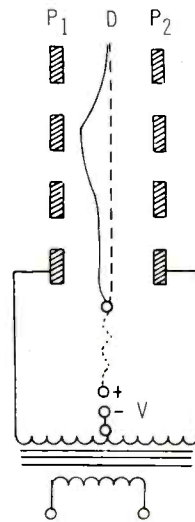

Fig. 4—Showing diaphragm displacement.
C2 figure because the net increase is greater than the decrease. This means that the corresponding charge will be higher and the diaphragm displacement will be greater than required. In other words, it would produce a kind of amplitude distortion progressively worse at low frequencies. Fortunately, the cure is fairly simple and it merely entails supplying the charge in the diaphragm via a high resistance. If the time-constant introduced is appreciable compared with the lowest frequency to be reproduced then there can be no significant current flow to or from the diaphragm and the charge is *constant*. Well almost, because there is yet another snag. Figure 4 shows a diaphragm pulled over to one side by the signal with one part nearer the plate P1. It is impossible to maintain 100 per cent accurate spacing and so the charge tends to migrate to a point nearest a plate. What happens then? The voltage would fall elsewhere and so the effect is cumulative and could eventually lead to ionization and actual voltage breakdown—quite apart from causing distortion (1). Again the cure is relatively simple and the answer is to make the diaphragm itself a high resistance so the charge cannot move about. Colloidal graphite or vacuum formed gold are two materials used and typical resistance is between 50 and 100 megohms per inch.